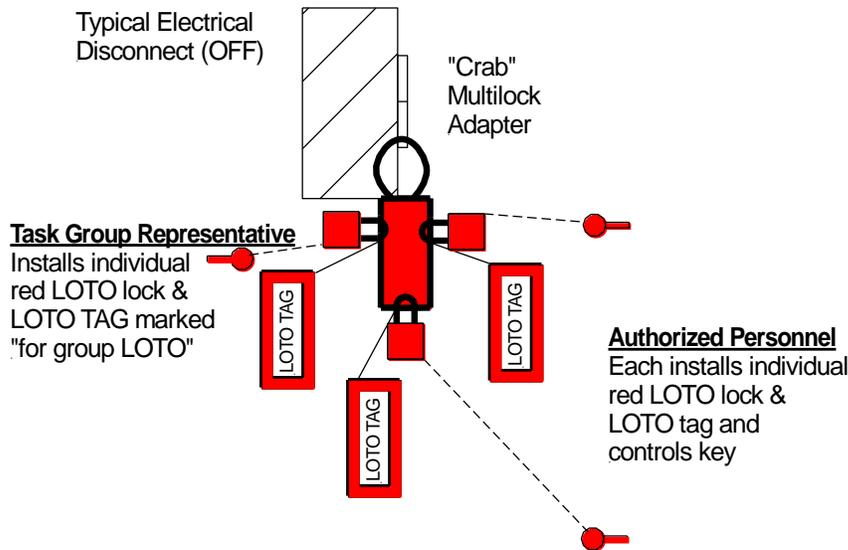

Figure 8.2-1. Group lockout tagout concept for single energy control point.
- d. Single energy source, multiple maintenance, servicing personnel, and **single point with use of multi-lock adapter (figure 8.2-1)**: